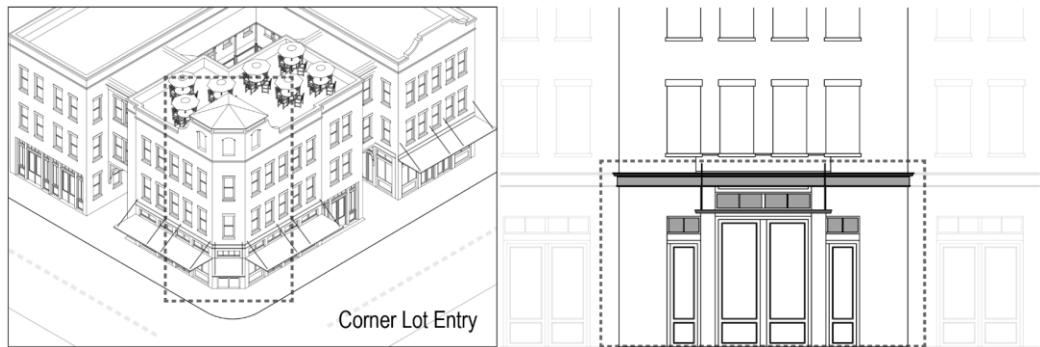

Figure 18: Primary Entry Examples
m. Stained glass and art glass installations may be used, provided they are in character with the style of the building (see Subsection 3.2(f)(3) for additional specifications regarding Architectural Styles)
(3) Entrances and Access.
a. All new buildings should have the main entrance oriented to and in full view from a street or public open space. Main entrances shall have design details that enhance the appearance and prominence of the entrance so that it is recognizable from the street and parking areas. Building on corner lots shall use design elements that emphasize the importance of both streets (Figure 18).